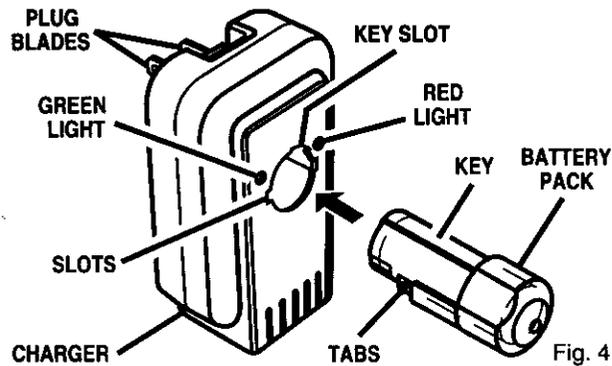

Fig. 4
- Position battery pack so that the key on battery pack aligns with the key slot in charger. *See Figure 4.*